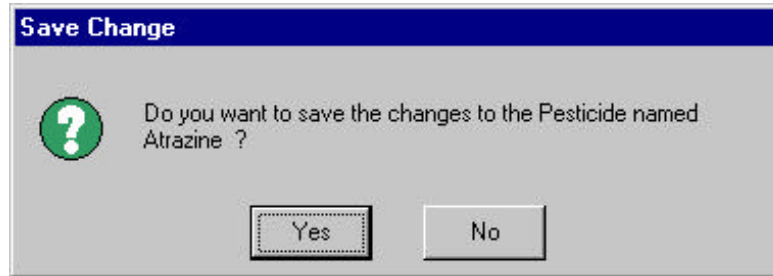

Figure 14.55
- e. A prompt box appears (Figure 14.55).